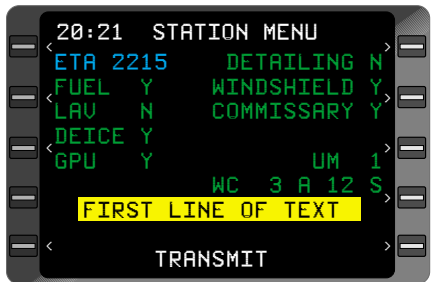

Figure 8-40
26. **ENTER** Key - DEPRESS. The cursor will move to first line of free text. See Figure 8-40.